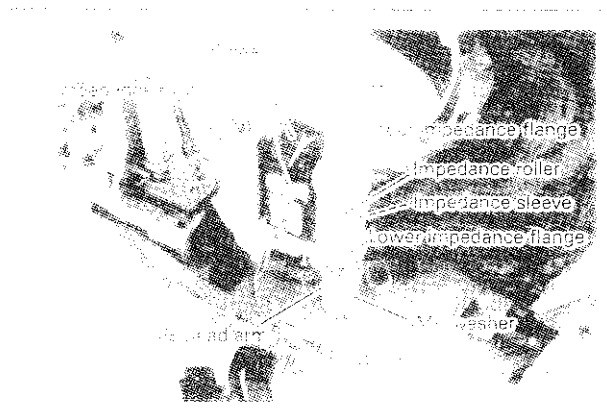

Fig. 3-21-14
- (1) Attach the FE head and supply roller (See Fig. 3-21-14).
- (2) Attach the MF washer to the main plate and adjust the center of the MF washer and the measuring bar to the center.
- (3) Attach the supply with impedance roller to the main plate. Attach the impedance roller to the upper impedance flange and the lower impedance flange.
- (4) Set the height of the roller with the MF washer to the roller and supply to the FE head arm.
- (5) Move the roller automatically.